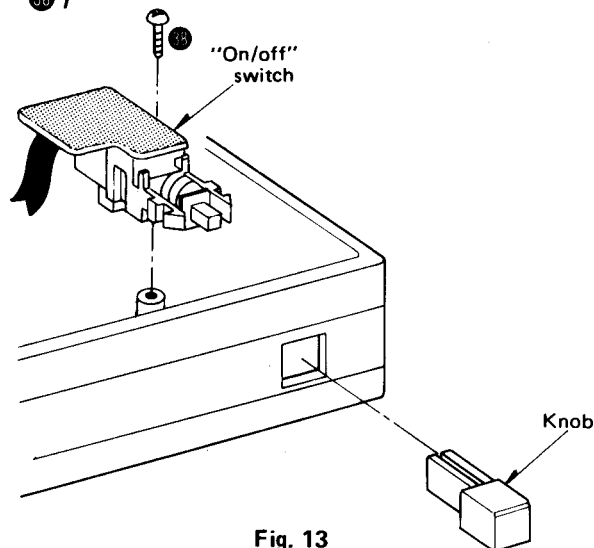

Fig. 13
3. Remove the setscrew of the on/off switch. (Fig. 13 : 38)